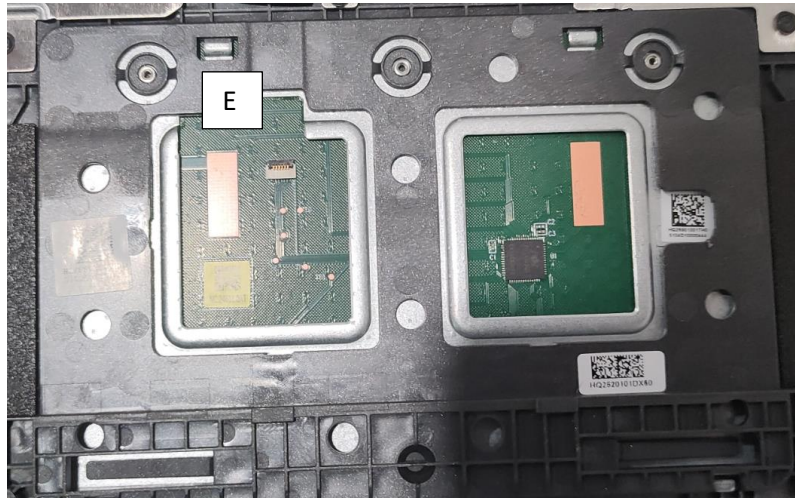

Figure 3-14. Touchpad Module Removal
5. Using the screwdriver, push the guide pins (D) firmly to release them from the top assembly (Figure 3-14).
6. Slide the touchpad module slightly to disengage it from the bottom latches (E), and then remove the touchpad module from the top assembly (Figure 3-14).